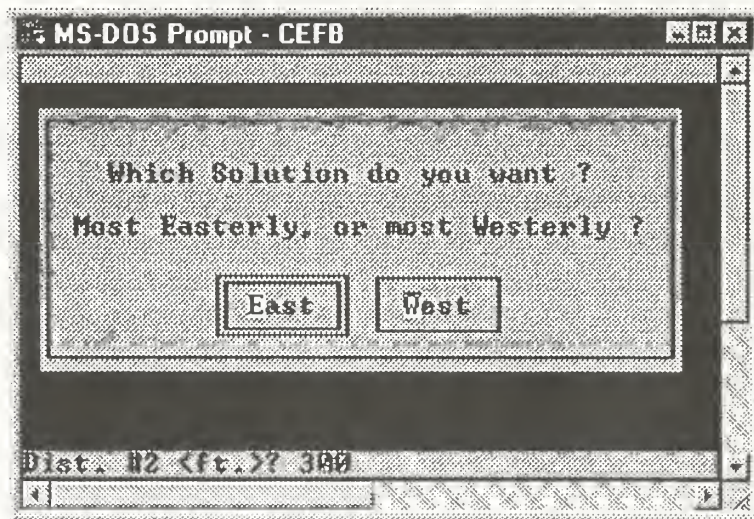

Figure 6.12: Which Solution do you want
- 2a. If in geodetic mode, the command line should now read: **Forward (F) or mean(M) ?.. <M>**. Press <Enter> or **M** if you desire a mean geodetic bearing/azimuth, or the letter **F**, and <Enter> for a forward geodetic bearing. Example: **M** for Mean
9. Select the desired solution from the prompt presented to the operator as shown in Figure 6.12. Figure 6.12 displays a easterly or westerly solution. A northerly or southerly prompt can also be presented to the operator. This prompt depends on the location of the two solutions.
9. Select a choice in the prompt shown in Figure 6.12 for the desired solution.